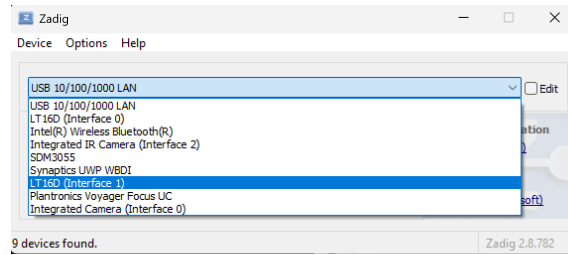

Figure 3.3: Zadig showing two interfaces for LT16M.
6. Choose LT16D (Interface 1) and install libusb-win32, as seen in Figure 3.3.